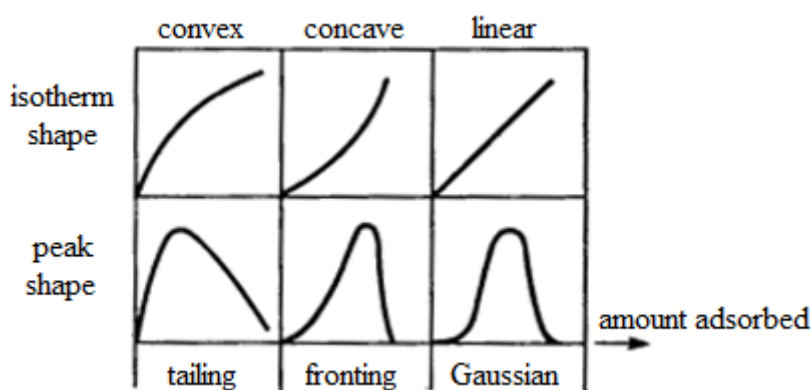

Fig. 2: Dependence of the isotherm plot on the peak curve
- Isotherm (sorption isotherm) is the dependence of the concentration of a substance in the stationary phase on its concentration in the mobile phase at a constant temperature. The isotherm plot correlates with the peak curve (Fig. 2).